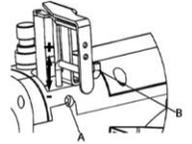

图12 (Fig.12)
2.Adjustment.(Fig.12) The position for Needle thread Take-up Lever (B) is adjustable according to thread used. Loosen screw (A), move lever (B) up and down for the optimum position. For instance, when using high extension thread, move lever (B) upward to make a bigger needle thread loop for lower to chain easily.